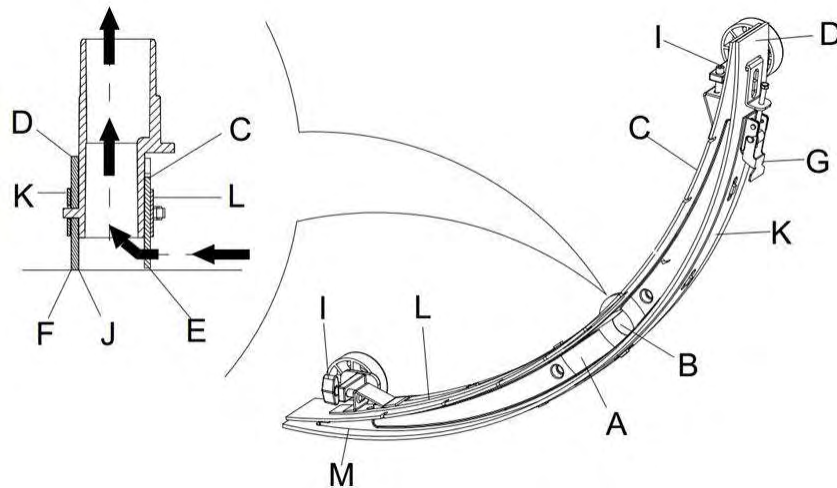

Figure 15
2. Press the power switch (41) to the “O” position to turn off the machine.
3. Unscrew the fixed handle (16) of the squeegee; take off the connector connecting the Recovery Vacuum tube of the squeegee, and take off the squeegee.
4. Use the squeegee lifting handle (14) to lift the squeegee support frame.
5. Clean the squeegee (**Figure 15**). Clean in particular the groove (**A, Figure 15**) and the dirt and fragments on the Vacuum tube. Check if the front squeegee blade (C) and the rear squeegee blade (D) are intact, and if there are broken edges and cracks. Change them if necessary (refer to the steps in the following section).
1. Following the methods related in the previous section clean the squeegee (**Figure 15**)
2. Check the edge (**E, Figure 15**) of the front squeegee blade and the edge (F) of the rear squeegee blade (D). On the whole length, they should be on the same level. Otherwise, adjust their heights through the following procedure.
- Loosen the clip (G) to let the rear squeegee blade (D) separate from the bracket (M) for the adjustment of the position of the squeegee. After the adjustment, lock the clip once again.
- Loosen the screw on the handle (I) to adjust the front squeegee blade (C); tighten the handle screw after adjustment.
3. Check if the front squeegee blade (C) and the rear squeegee blade (D) is intact and if there are broken edges and cracks. If necessary, change them according to the following ways. Check the front edge of the rear squeegee blade (J) whether it has been worn. If worn, it can be installed upside down (the top edge is required to be intact). If the top edge is also worn, change it by following the procedure below:
- Loosen the clip (G) to let the pressure blade separate from the bracket (M), take off the clip bar (K), and then change or turn the rear squeegee blade (D) upside down. Re-install the rear squeegee blade in the reverse order of taking it off.
- Loosen the handle screw (I) and take off the front clip bar (L), and then change the front squeegee (C).